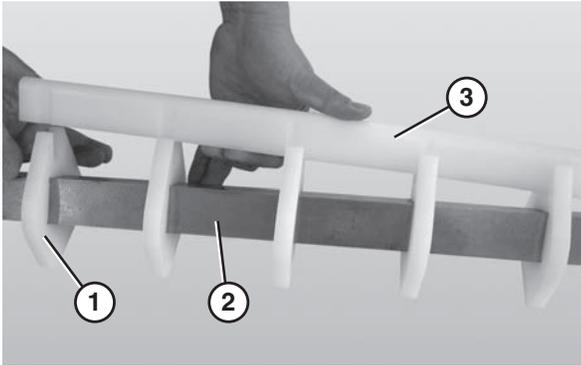

Figure 61
1. Slide the nose bar pucks (Figure 61, item 1) onto the nose bar drive post (Figure 61, item 2).
2. Attach the nose bar wear strip (Figure 61, item 3).